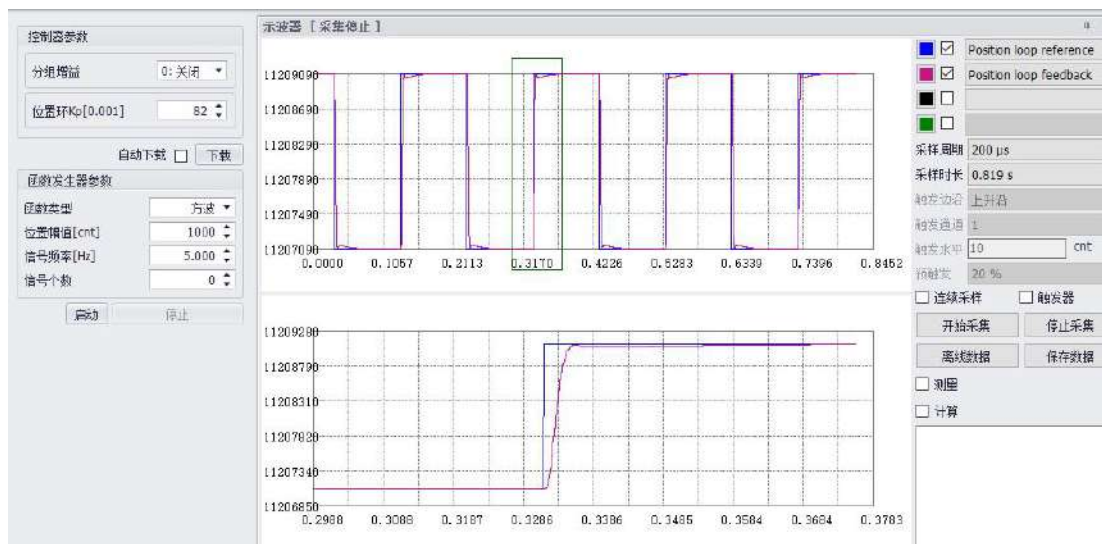

Figure 4-25 Debugging interface of position loop
1. Select **"Position Loop"**. The debugging interface of the position loop shows as in Figure 4-25.